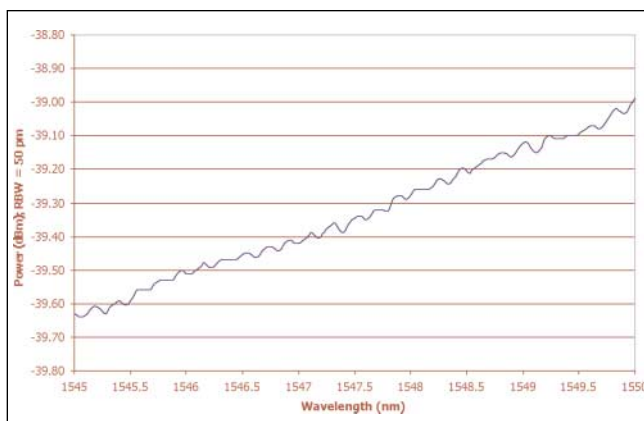

Figure 8 Presence of low-amplitude but repeatable spectral modulation of the FLS-2200-SCL around 1550 nm with a resolution bandwidth set at 0.05 nm
An aspect that should not be neglected is the possible presence of spectral modulations (ripple). These modulations are very apparent when the resolution of the spectrum analyzer used is increased (see Figure 8). Such a modulation generally comes from an undesirable Fabry-Perot etalon present between the LED's front facet and the input fiber. Better control of internal reflections reduces the Fabry-Perot effect. It is interesting to note that the length of the Fabry-Perot etalon (L) is equal to  $c/2Dn$ , where c is the speed of the light, n is the refractive index of the material, and D is the modulation period expressed in Hz. Typically, L is around 1 mm, which is equivalent to the distance of the interface created by the LED output and the fiber input or lens facets used for coupling in the fiber.